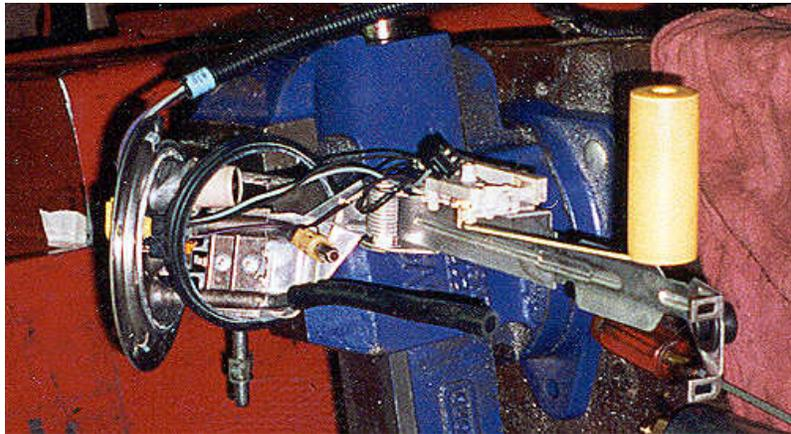

Figure 1
- 1-8. Remove the OEM fuel pump canister and fuel pump from the fuel pickup assembly. Figure 1 shows how your pickup should look once this step has been completed.